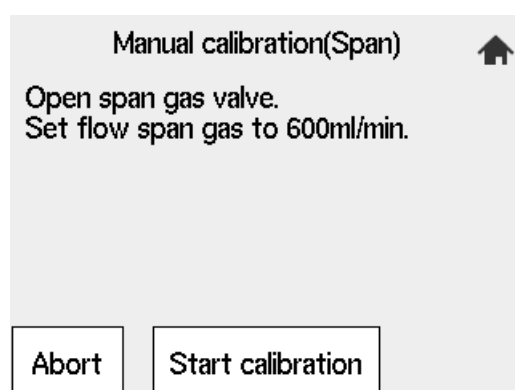

Figure 7.18 Span gas Flow Display
- (3) After the message of Figure 7.18 appears, feed the span gas to follow the message. Open the span gas flow setting valve on the flow setting unit and adjust the flow to 600 ± 60 ml / min. For the valve, loosen the locknut and slowly turn the valve shaft counterclockwise. To check the flow rate, monitor the calibration gas flowmeter.